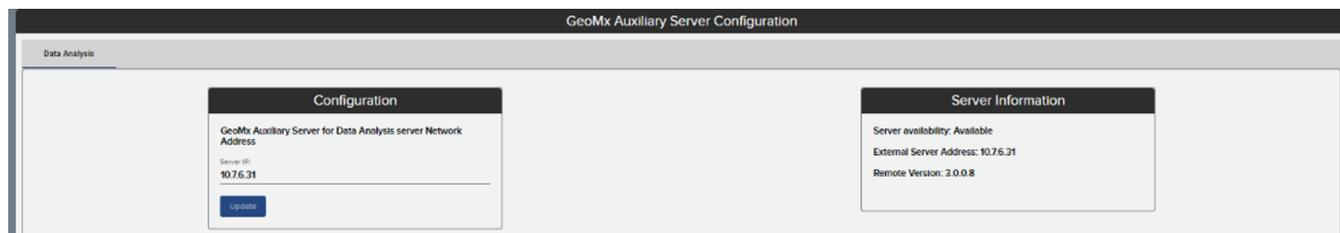

Figure 79: Auxiliary server configuration window after pairing
7. When the **Setup Complete** window appears, click **OK**. The server availability and address will be displayed (Figure 79). If this information does not appear, refresh the screen (Ctrl + R).